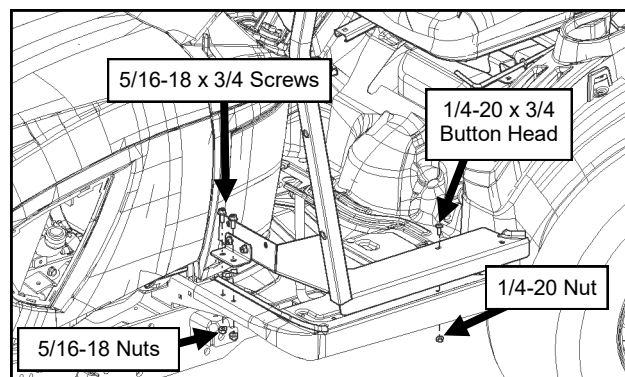

Fig. 3.3 (Assemble A-Pillar to Floor Board)
- 3.3 With assistance, set the left A-pillar onto the floor board and loosely bolt it down. See figure 3.3. Tighten the bolt snug enough to stabilize the A-Pillar, but the bolts will be fully tightened at a later step once the rest of the cab has been assembled.